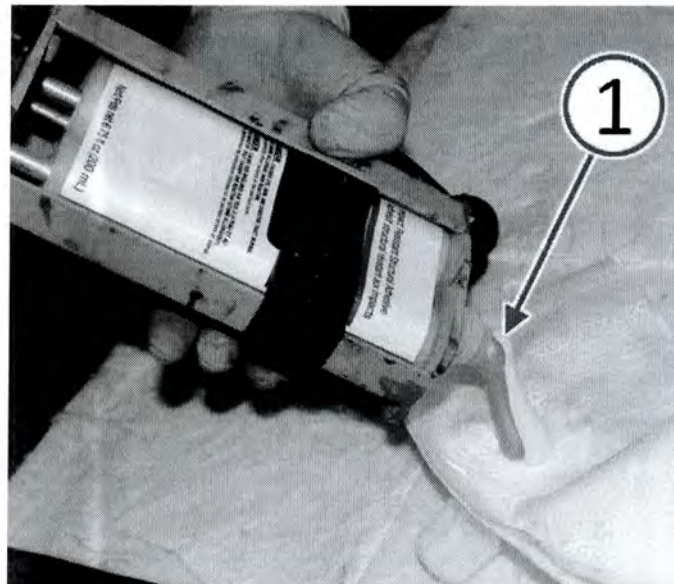

Fig. 7 Purge Air From Adhesive Cartridge
14. Squeeze a small amount of the two-component adhesive from each side of the cartridge (1) (Fig. 7). This will level the plungers and ensure that the adhesive is coming out of both sides of the adhesive cartridge.